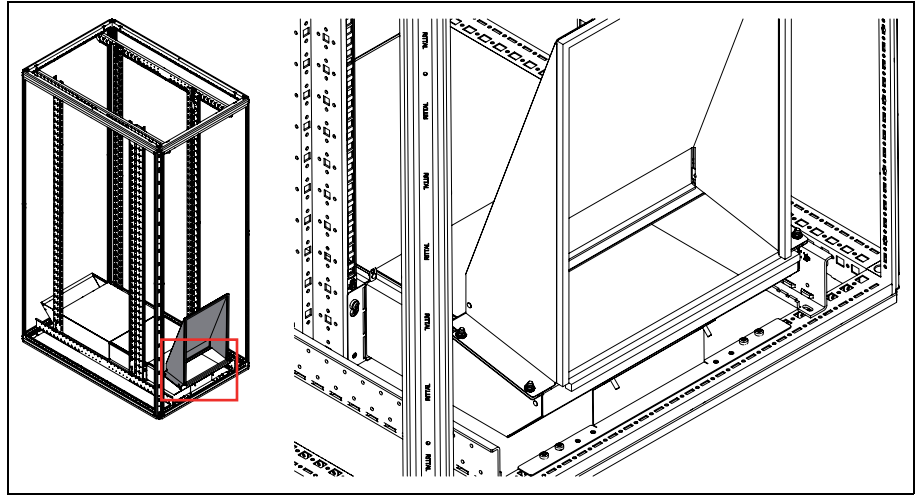

Fig. 21: Install the vertical air duct part
- Secure the air duct onto the horizontal part using four Polystop nuts (Polystop nut M5) each with one contact washer (contact washer NZ/5.1 serrated) (fig. 21).